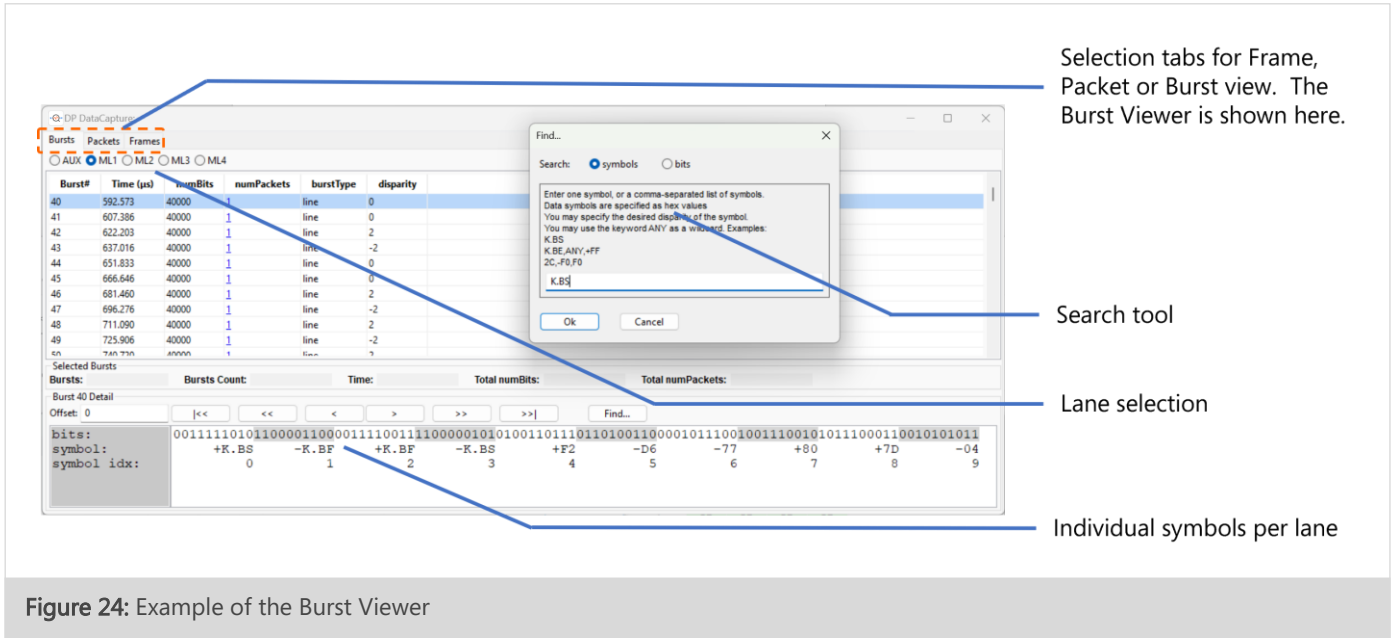

Figure 24: Example of the Burst Viewer
- g) Finally, pressing on the “Bursts” tab at the top of the viewer will present the **Bursts Viewer**, and an example of this is shown in Figure 24 on the following page. This represents the lowest level of the hierarchy in the data capture viewer. This viewer provides a symbol table, which is traceable by index or lane. Once again, the search tool as shown allows for easy navigation through the Burst Viewer.